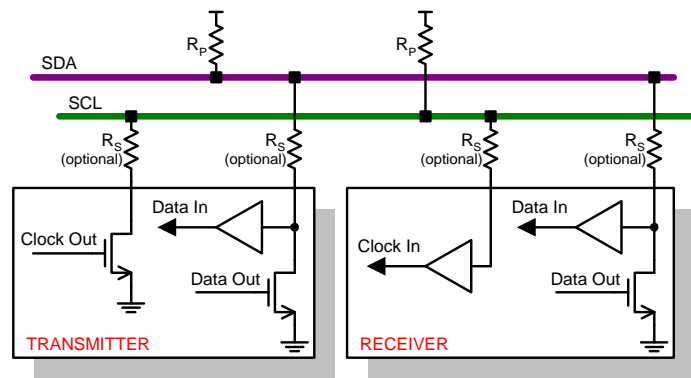

Figure 23: Connections to the Serial Bus
Connection of devices to a standard-mode implementation of the I2C-bus is similar to that shown in Figure 23. Selection of the pull-up resistors (RP) and the optional series resistors (RS) on the SDA and SCL lines depends on the supply voltage, the bus capacitance and the number of connected devices with their associated input currents.